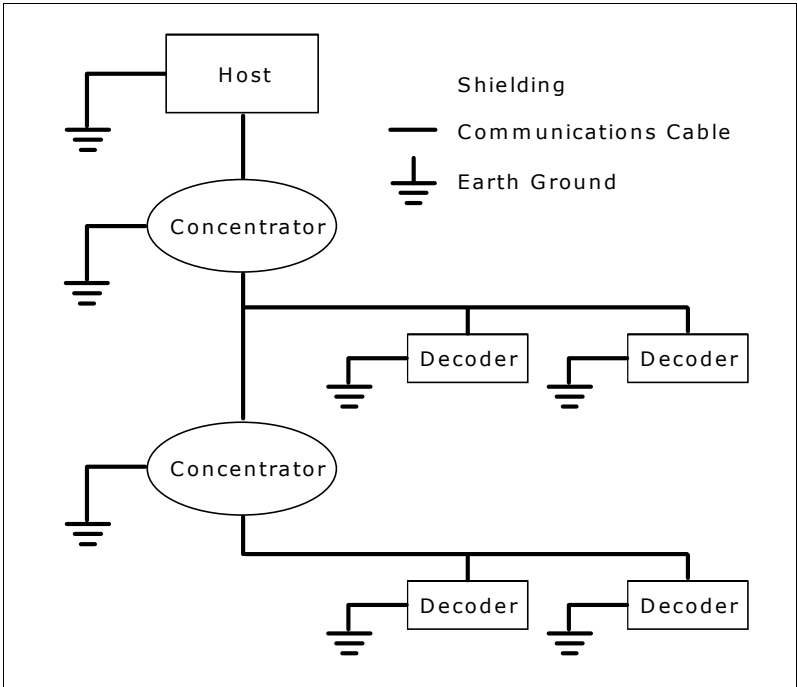

Figure A-4 Network Grounding Diagram
*Noise interference* can be minimized if cabling subject to noise interference is twisted and/or shielded or encased in grounded conduit, and the conduit or shielding (“drain” line) is grounded only to earth ground at the host, as shown in figure A-4.
Ground loops can be avoided as shown in figure A-4. In this method, the optional ground wire (see Figure A-4 “Network Grounding Diagram” on page A-8) is disconnected at each device, and each device chassis is earth-grounded through the power supply. The power supply must provide a reliable earth ground connection.